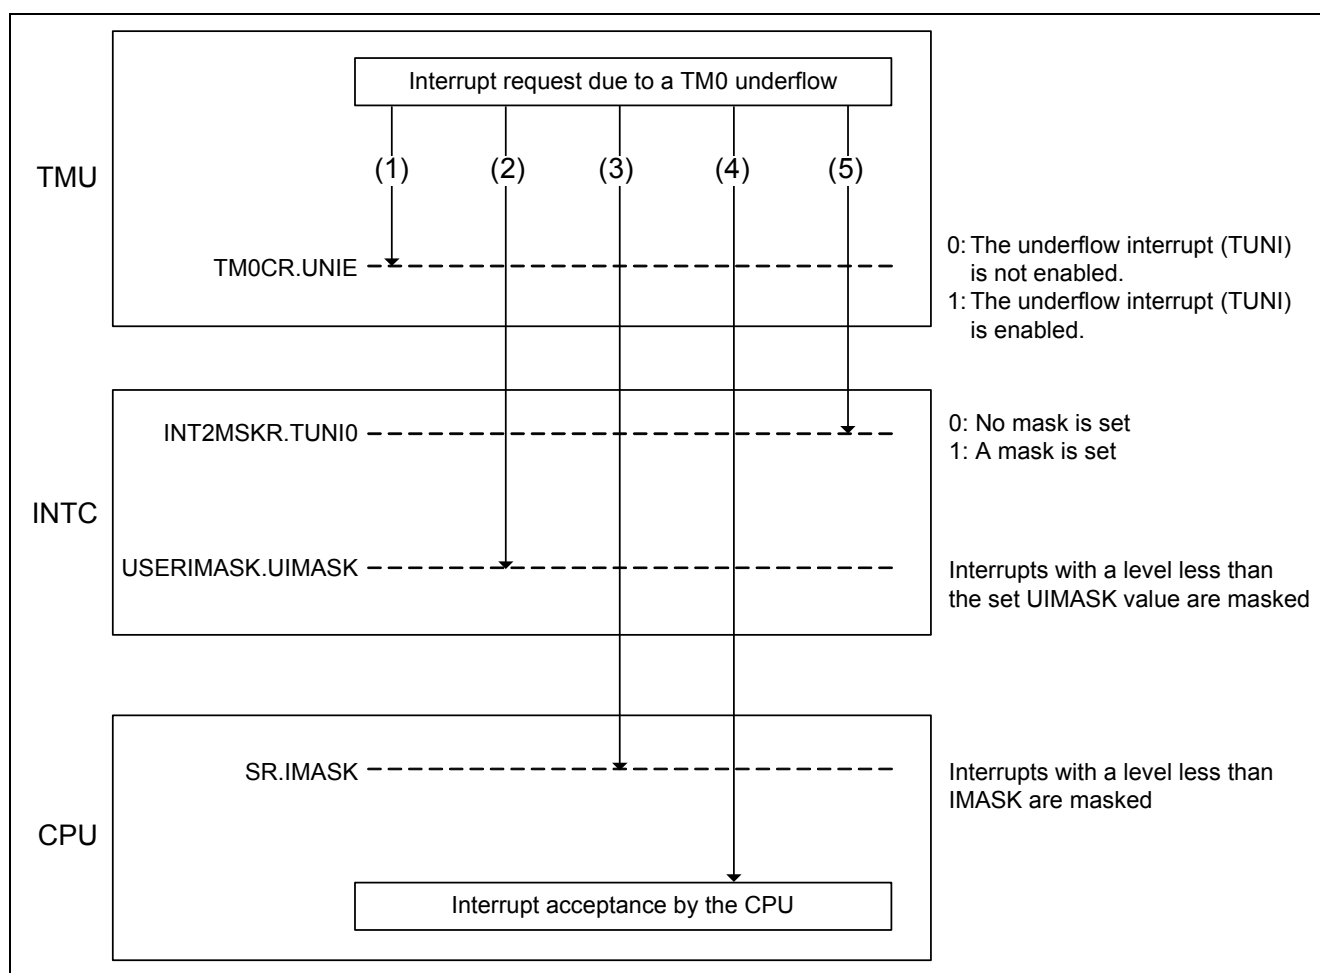

Figure B.1 Interrupt Mask Operation Example
Table B.1 and figure B.1 present an example of mask operation for the TM0 underflow interrupt when UIMASK is 1 and IMASK is 2. The numbers (1) to (5) correspond in table B.1 and figure B.1. Note that bits in registers are noted as <register name>.<bit name> in table B.1 and figure B.1.